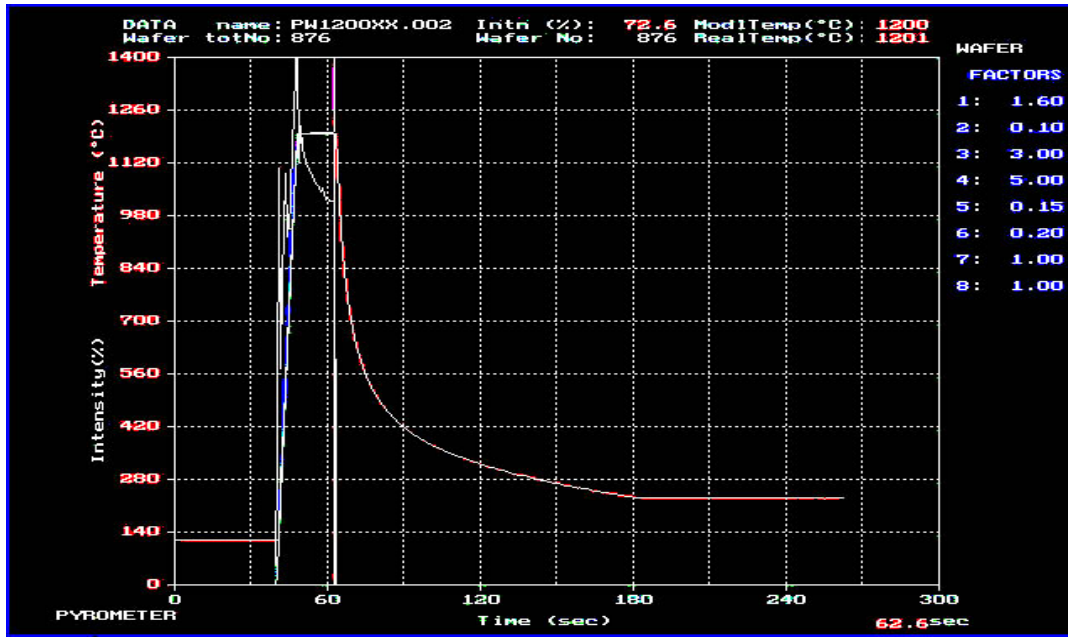

Figure 3-12. Historical Time/Temperature Profile
3. Select a process data file to plot, and press [ENTER]. The data file is plotted as shown in **Figure 3-12**.